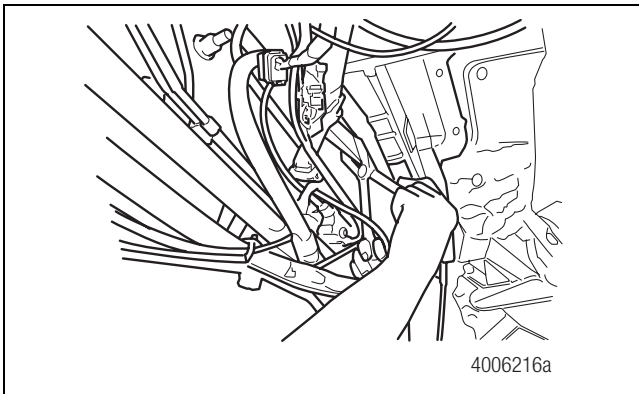

Figure 1
7. Use hose clamp pliers to clamp the rubber hose at least three-inches (76 mm) away from the entrance to the HCU reservoir. Use care to avoid damage to the plastic reservoir nipple inside the hose. Figure 1.